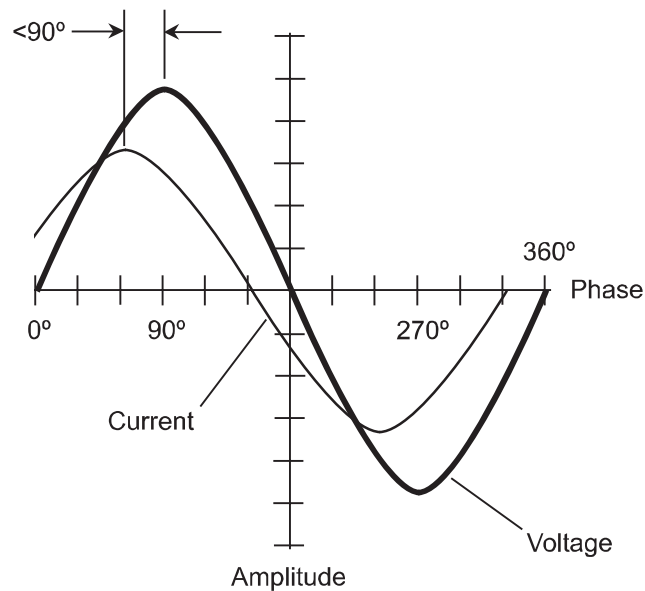

Fig. 3-13. In an RC circuit, the current leads the voltage by some phase angle greater than 90° but less than 90° .
When the resistance in a *resistance-capacitance (RC) circuit* is significant compared with the capacitive reactance, the current leads the voltage by something less than 90° (Fig. 3-13). If R is small compared with X_C ,